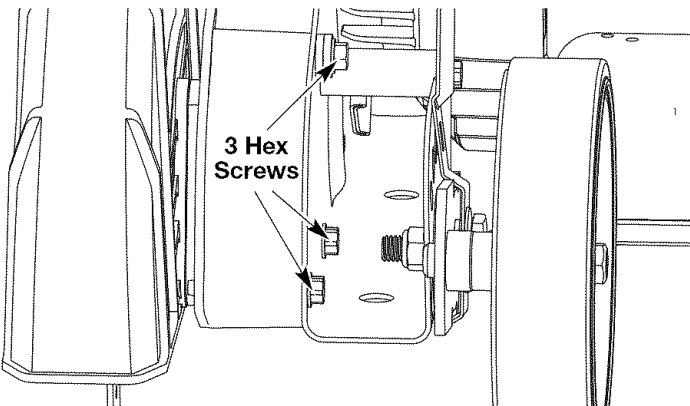

Fig. 38
5. Using a 3/8-inch wrench, remove the three hex screws holding the blade assembly to the belt housing (Fig. 38).
18. While holding the blade assembly in place, hand-start the hex screws that hold the blade assembly in place (Fig. 38).